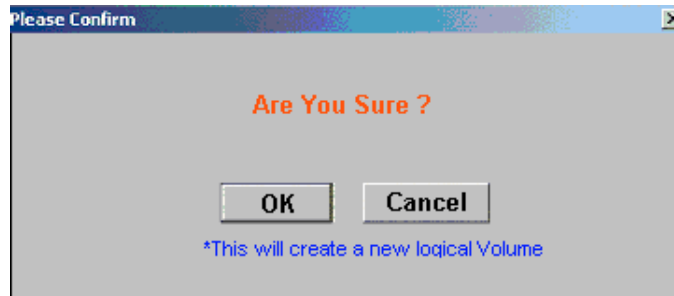

Figure 8-44: Confirm LV Creation
Step 2. A confirmation window shown in **Figure 8-44** will appear. If you are certain that you want to create the LD with the settings you have selected, click the “OK” button.